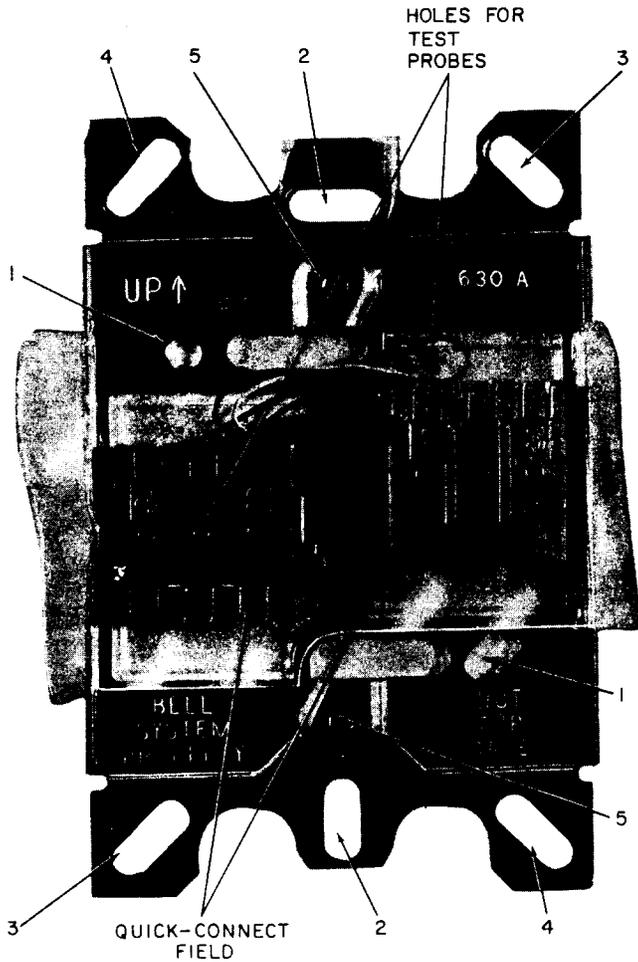

Fig. 2—630-Type Connecting Block Base
3.01 The 630B connecting block may be used with exposed or concealed station wire. Each quick-connect terminal (total of four) provides for three station wire and one jack lead termination. An access for a test point is also provided (Fig. 2).
3.02 The connecting block base should be mounted with the appropriate fasteners using the mounting holes shown in Fig. 2.